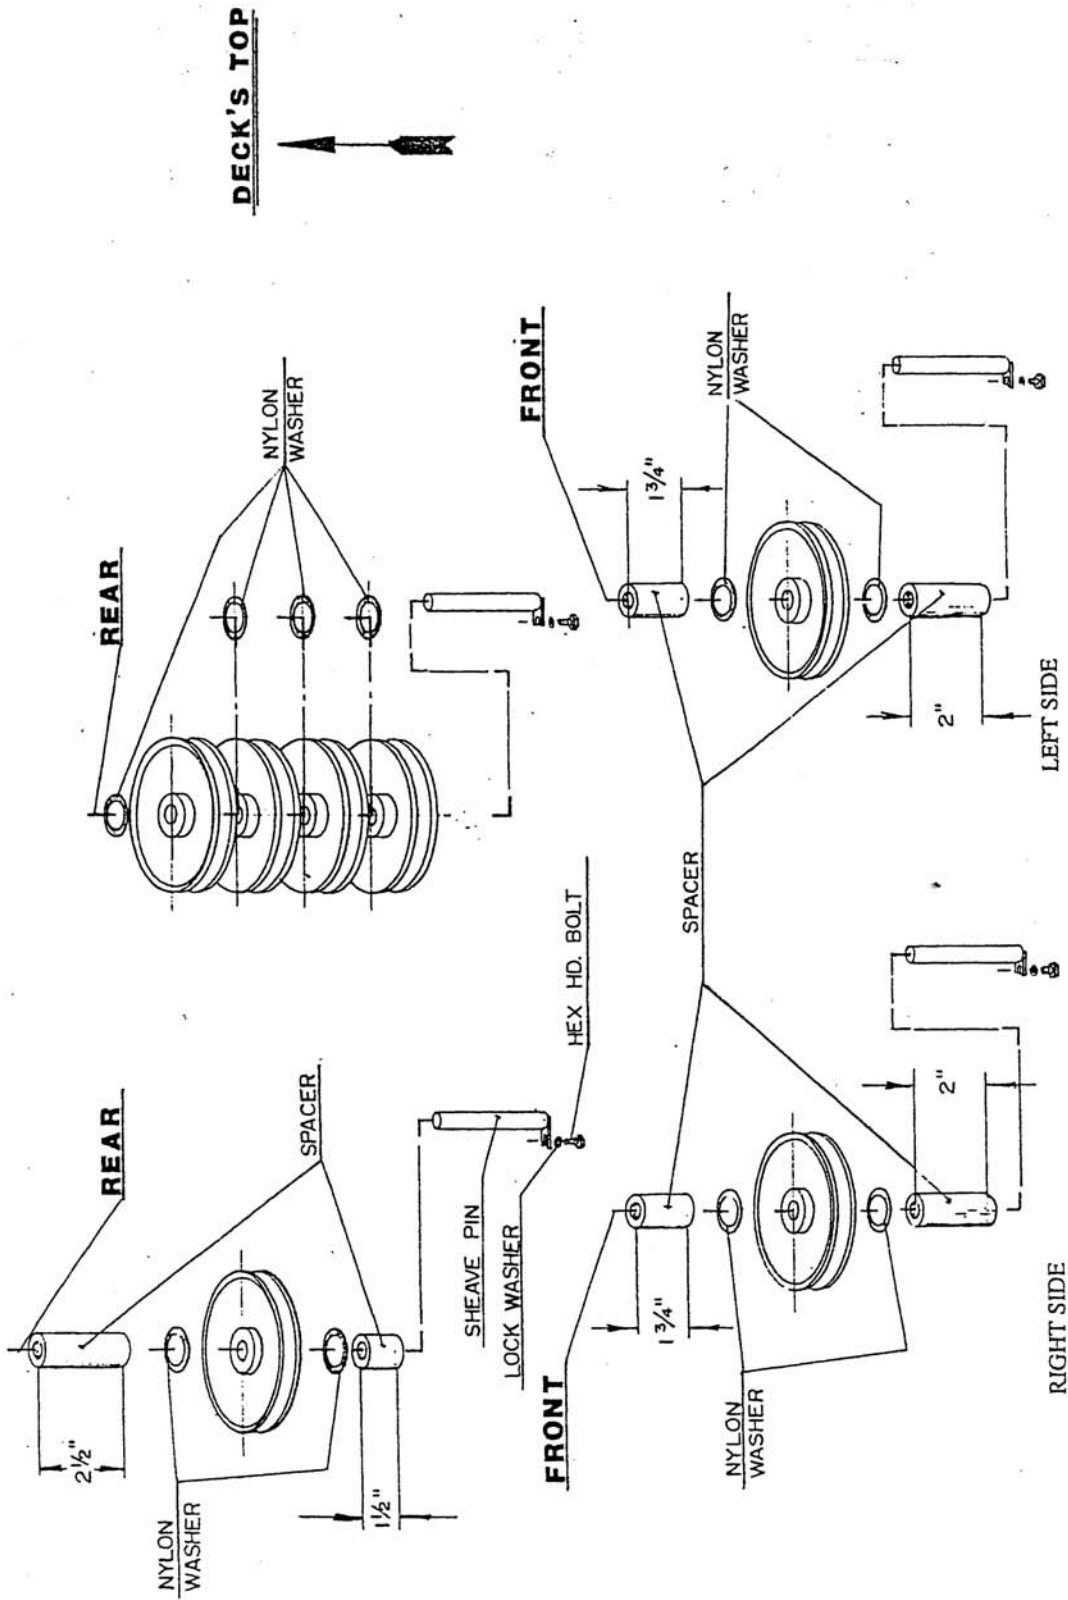

Figure 5
- CHECK FOR CORRECT ARRANGEMENT OF SPACERS ON SHEAVE STACKS, FIGURE 5.
- Install the sheave into the front of the right deck as shown in Figure 5.
- Install the sheave into the rear of the right deck as shown in figure 5.
- Install the sheave into the front of the left deck as shown in figure 5.
- Install the sheave stack assembly at the rear of the left deck as shown in figure 5, Sheave Installation.